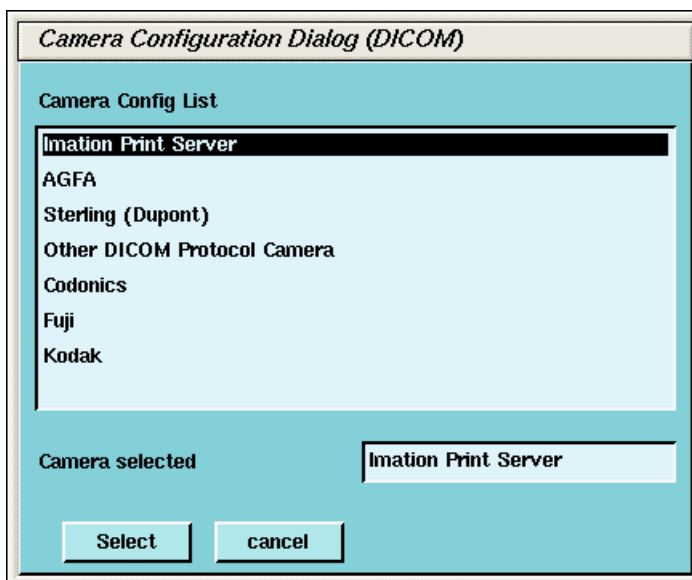

Figure 13-13 Camera Model Dialog (DICOM)
- a.) A list of camera models appears (see Figure 13-13). Select the appropriate model from the list and click SELECT. Clicking SELECT presets all the parameters to that model, except the Network parameters.